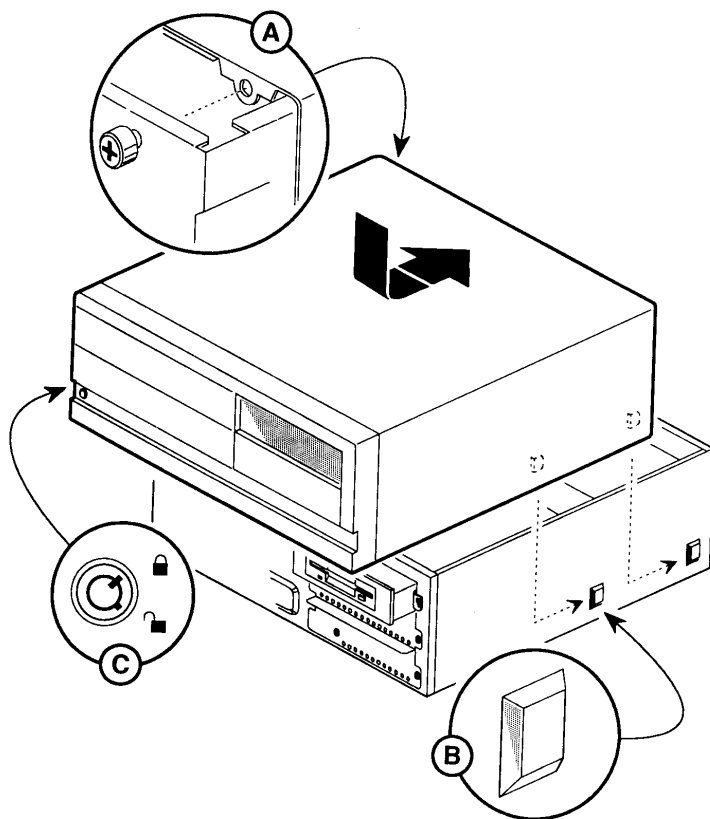

Figure 4
3. Position the cover above and about two inches from the rear of the chassis, then lower the cover down until the top of it touches the chassis. Slide the cover toward the rear of the system so that the tabs on each side of the cover firmly engage in the slots in the chassis frame (Figure 4).
4. Tighten the two system cover retaining screws (Figure 4) and, for security, using the system key, place the security lock in the locked position to prevent unauthorized removal of the cover from the chassis (Figure 4).